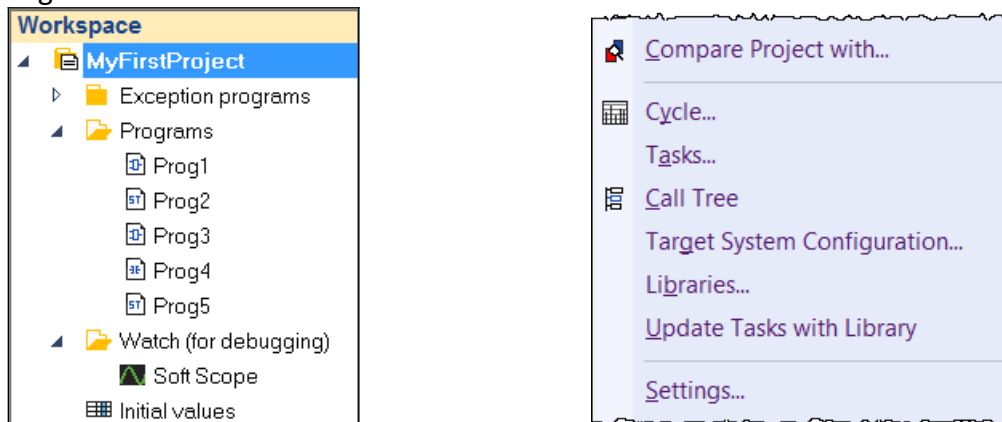
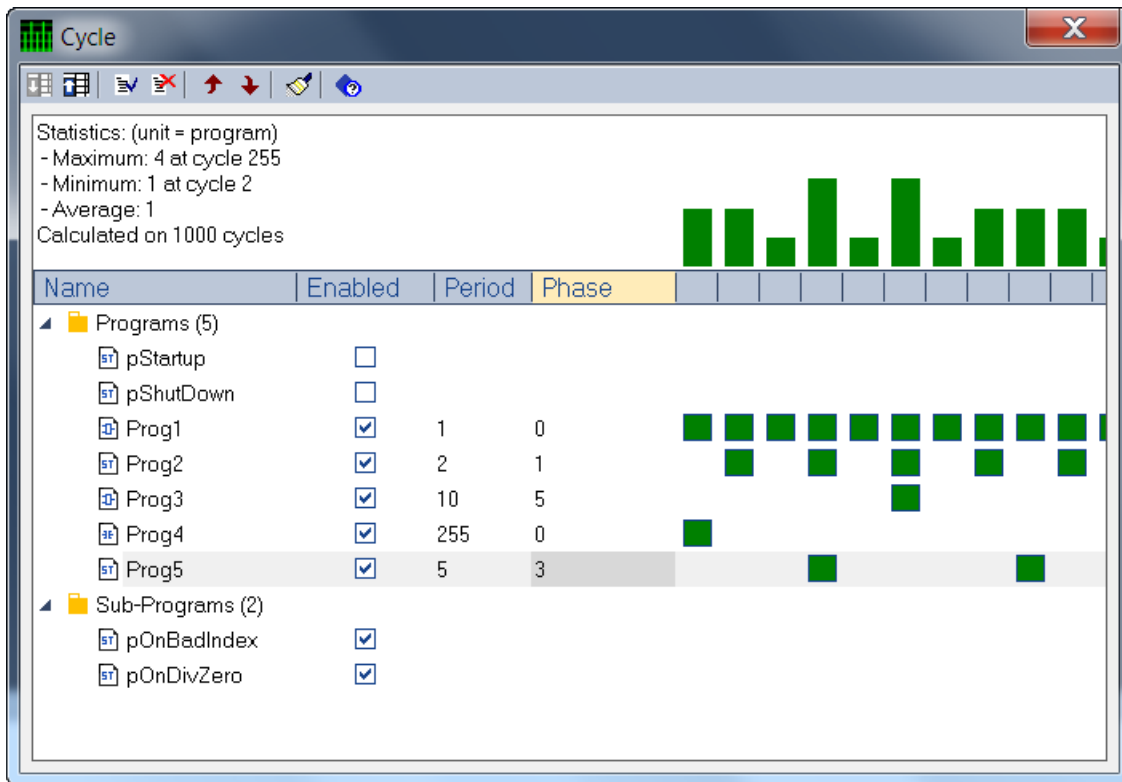

Figure 52: Main task with several programs (left); context menu (right)
Figure 53: Cycle window for program execution property setting
- Prevent execution peaks loading. Execution peaks occur when all programs of a task run in the same cycle. By distributing the program execution over several cycles these peaks can be prevented (see Figure 53)
For example Figure 52 shows an application where the main task consists of five programs.
Use the Cycle dialog (Figure 53) to define the execution properties of the various programs. Open the Cycle dialog by right clicking the task name and selecting 'Cycle...' from the popup menu (Figure 52).